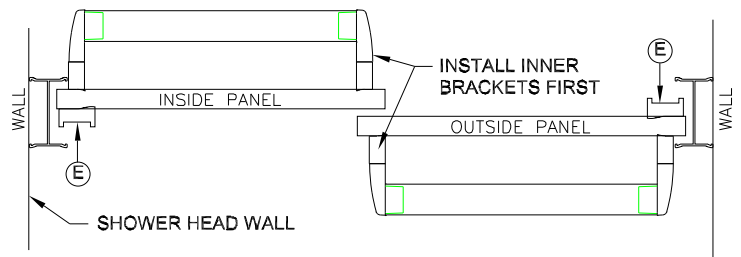

FIGURE 9A
As shown in figures 9A & 9b below, begin by installing inner Brackets first and securing Brackets with a #832 x 1-1/4 Towel Bar Screw (K).